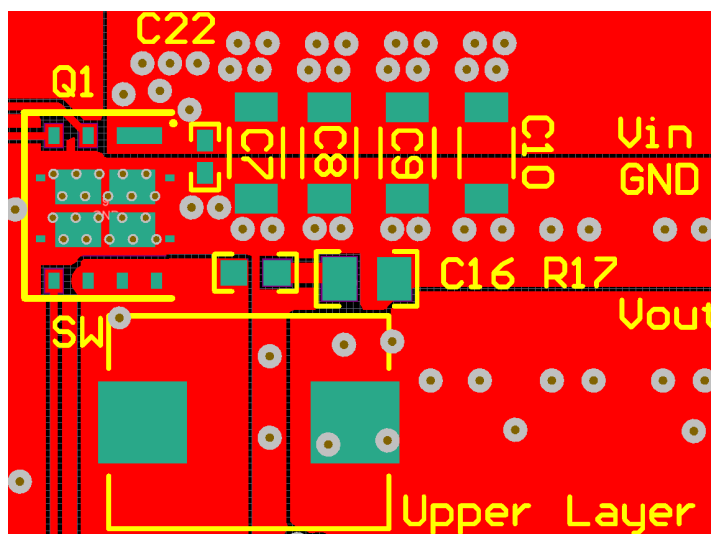
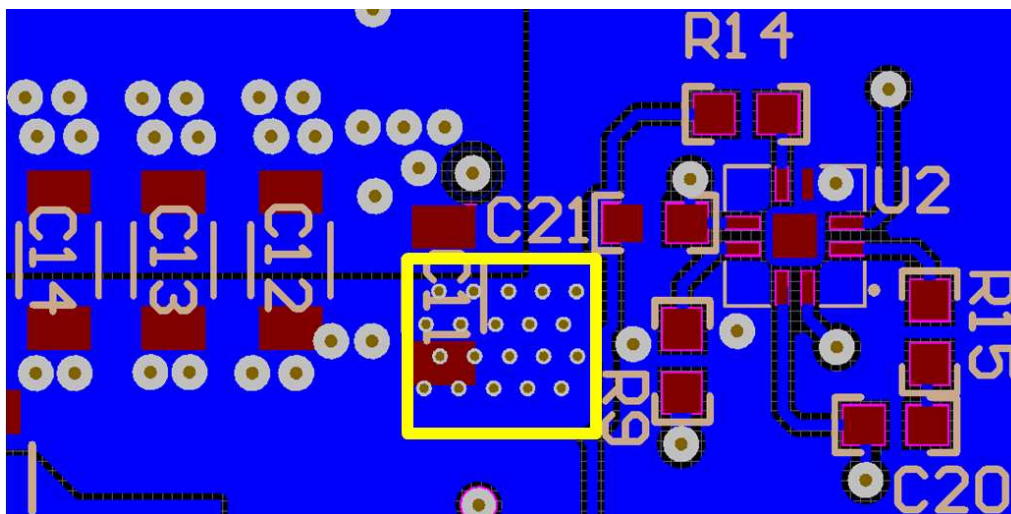

图 33. Recommended PCB Layout (Top Down View)
图 34. Recommended PCB Layout (Bottom View) ⁽²⁾
- The placement of the input capacitors relative to the power block's VIN and PGND pins should have the highest priority during the component placement routine. It is critical to minimize these node lengths. As such, ceramic input capacitors need to be placed as close as possible to the VIN and PGND pins (see 图 33 and 图 34). It is recommended that one 3.3-nF (or similar), 0402, 50-V ceramic capacitor be placed on the top side of the board as close as possible to VIN and PGND pins. In addition, a minimum of 40 μF of bulk ceramic capacitance should be placed as close as possible to the power block in a design. For high-density design, some of these ceramic capacitors can be placed on the bottom layer of PCB with appropriate number of vias interconnecting both layers.
- The switching node of the output inductor should be placed relatively close to the power block VSW pins. Minimizing the node length between these two components will reduce the PCB conduction losses and actually reduce the switching noise level. In the event the switch node waveform exhibits ringing that reaches undesirable levels, the use of a boost resistor or RC snubber can be an effective way to easily reduce the peak ring level. The recommended boost resistor value will range between 1.0 Ω to 4.7 Ω depending on the output characteristics of driver IC used in conjunction with the power block. The RC snubber values can range from 0.5 Ω to 2.2 Ω for the R and 330 pF to 2200 pF for the C. Please refer to Snubber Circuits: Theory, Design and Application (SLUP100) for more details on how to properly tune the RC snubber values. The RC snubber should be placed as close as possible to the VSW node and PGND (see 图 33 and 图 34).⁽¹⁾
(1) Keong W. Kam, David Pommerenke, "EMI Analysis Methods for Synchronous Buck Converter EMI Root Cause Analysis", University of Missouri – Rolla
- Use the smallest drill size allowed in your design. The examples in 图 33 and 图 34 use vias with a 10-mil drill hole and a 16-mil capture pad.
(2) The yellow box on 图 34 signifies an approximate location of the power block on the upper layer.